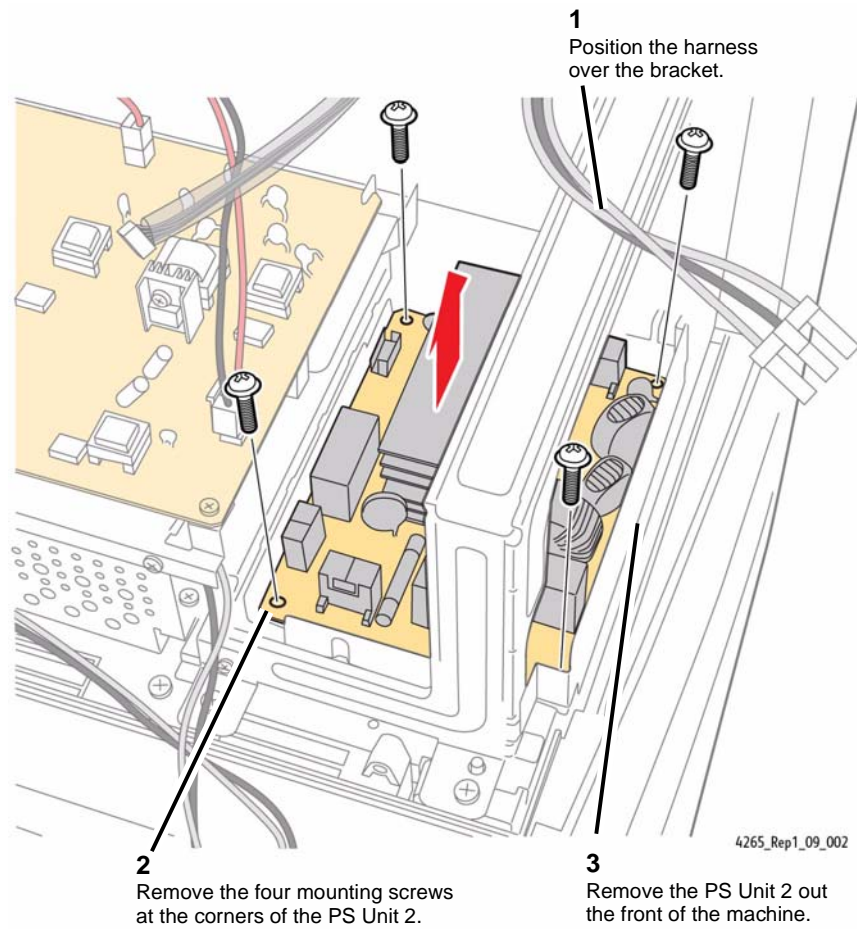

Figure 2 Removing the Power Supply Unit 2
5. Remove the PS Unit 2 (Figure 2).